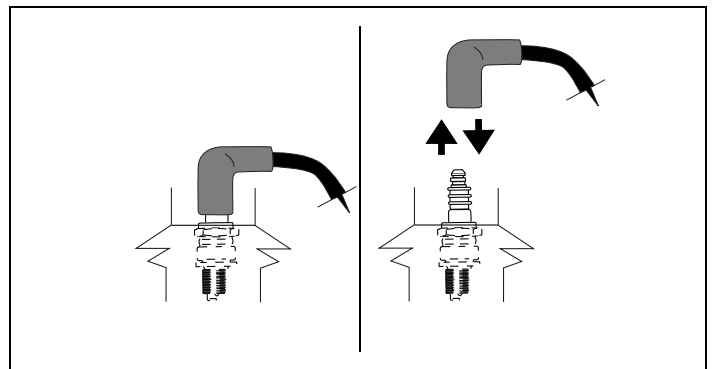

Figure 3. Disconnecting/Connecting Spark Plug
- Disconnect spark plug wire and keep it away from spark plug. See Figures 3 and 4.